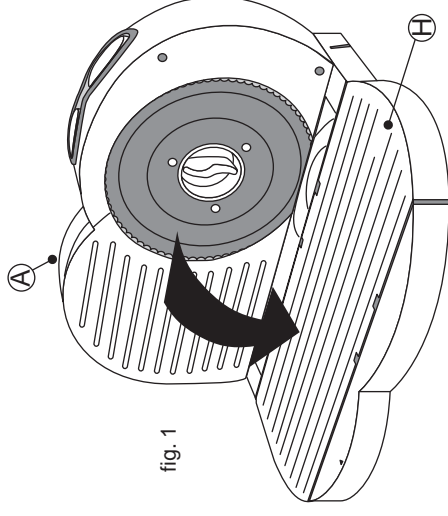

fig. 1
1. Unfold the Platform (H) from the Food Slicer (A). See fig. 1.